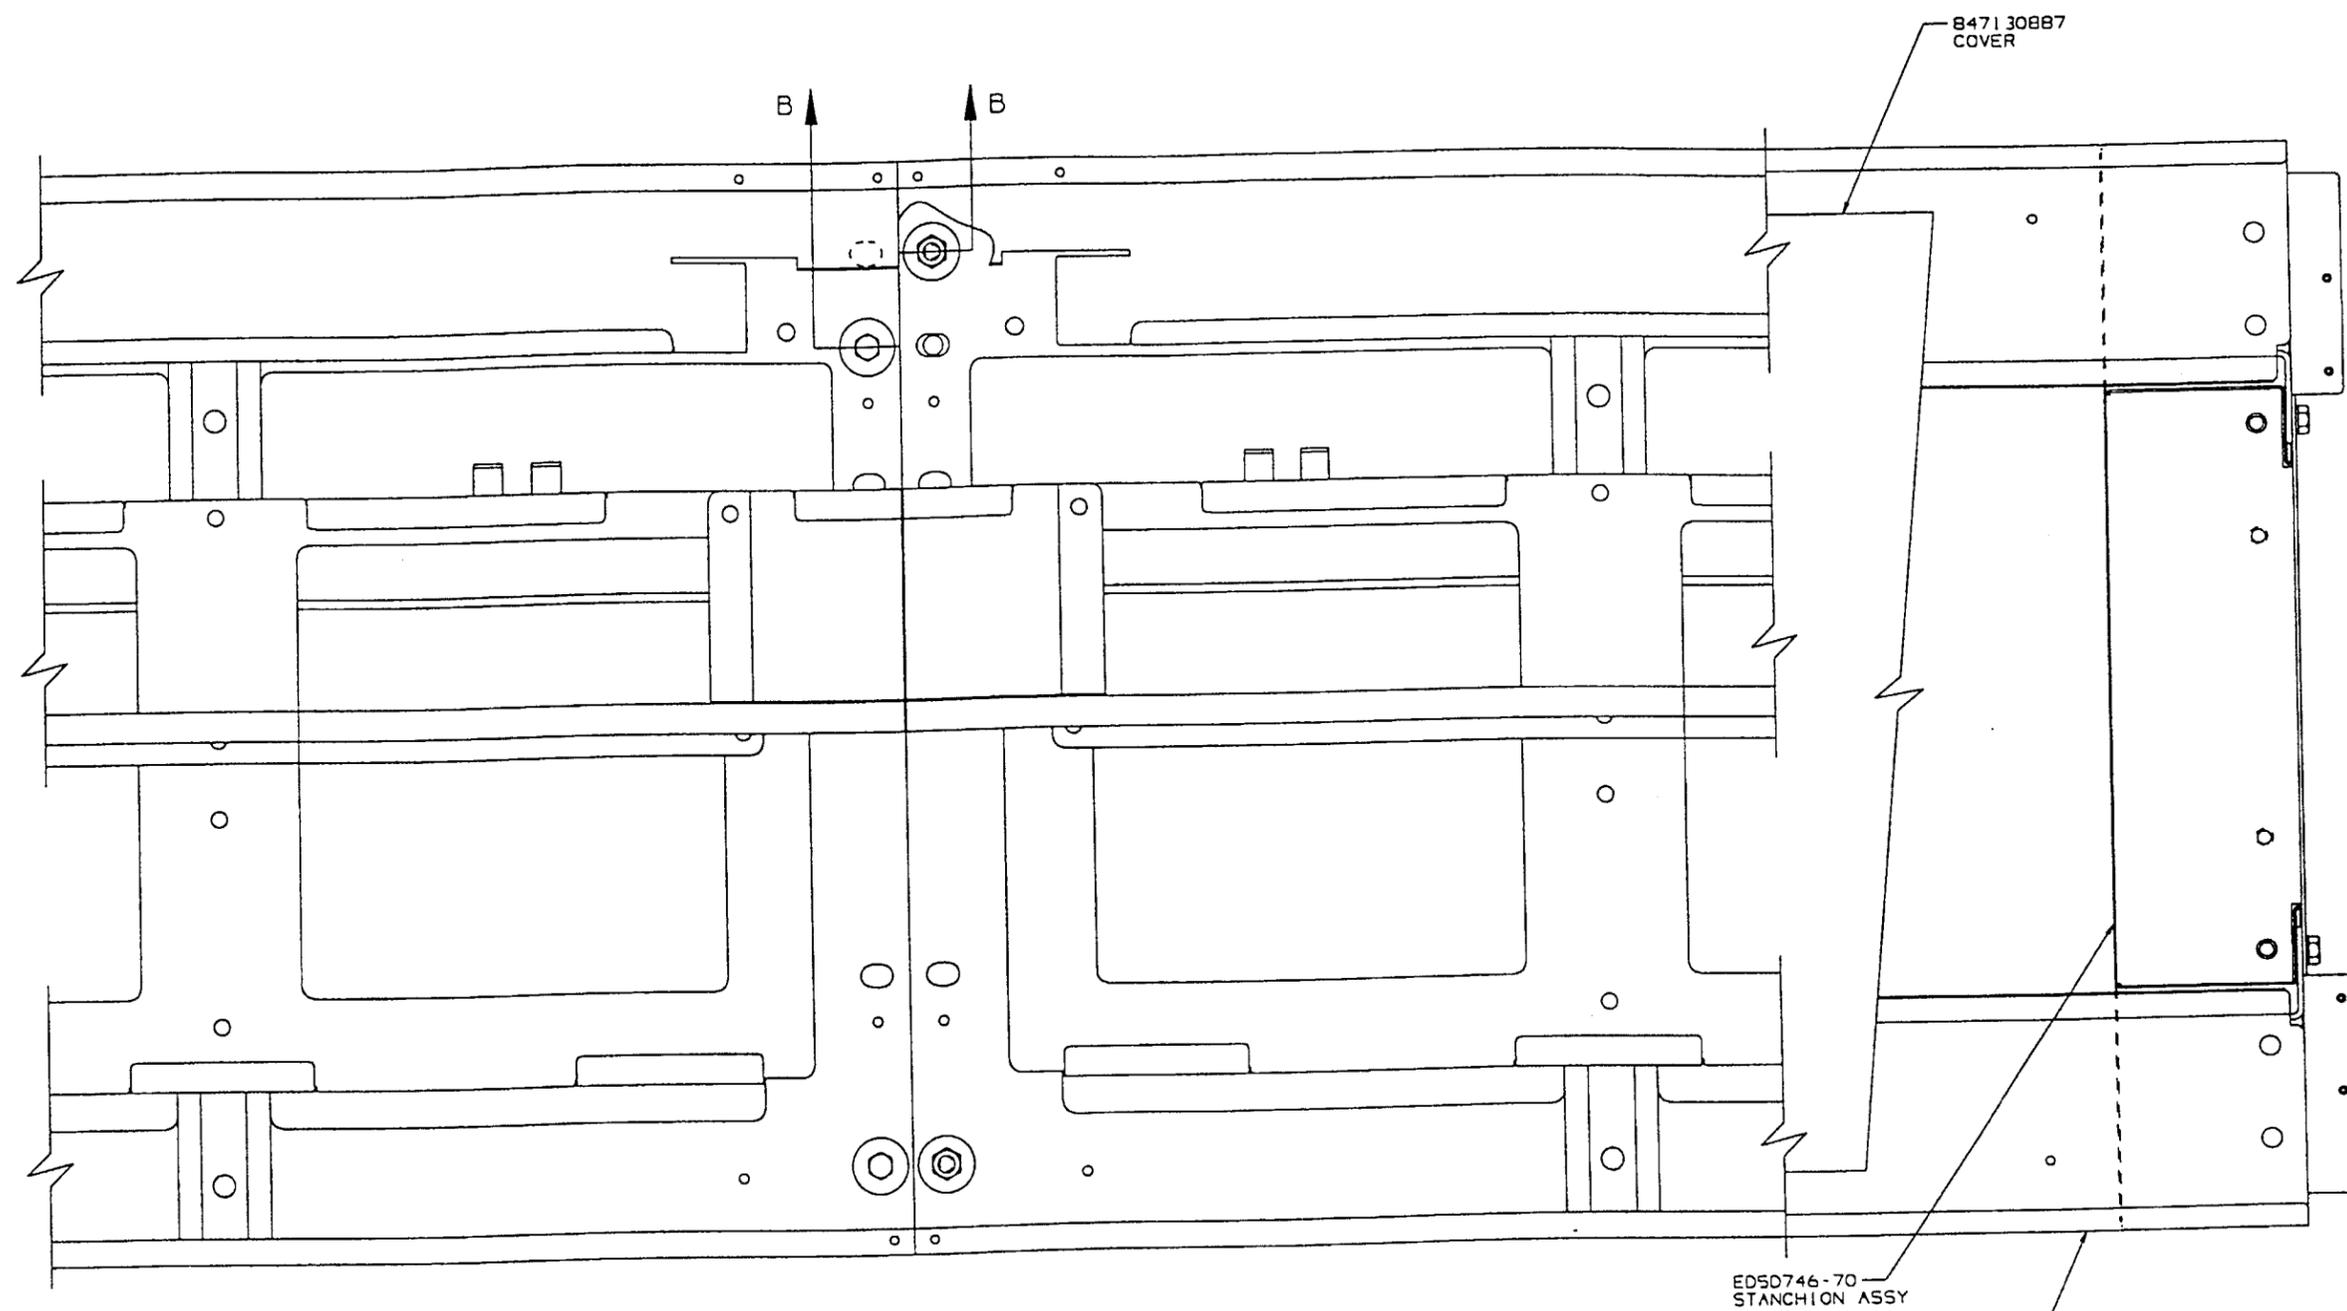

FIG. 4
- 55. GROUP 1 CABLE RACK SHALL BE BOLTED TO CABINETS AT 8 LOCATIONS. G2 FIT 4 LOCATIONS USING MATERIAL AS SHOWN IN FIG. 4 & SECT. B-B.